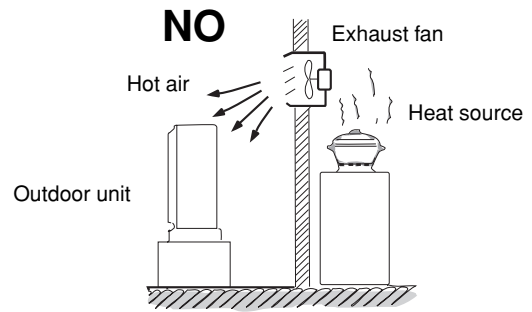

Fig. 4
- heat sources, exhaust fans, etc. (Fig. 4)